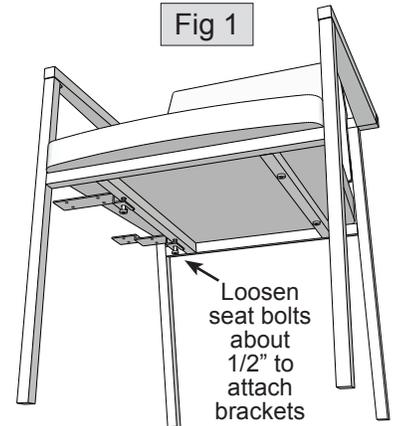

Fig 3
6. Pull the chairs together and rest the tabletop on the brackets, as shown in figure 3. Sticker on underside of tabletop faces back. (22 1/4" edge goes in front. 23 1/4" edge goes in back.)
7. Attach table leg to tabletop using Phillips screws into pre-drilled holes, as shown in figure 3. Tighten screws securely using care not to strip.